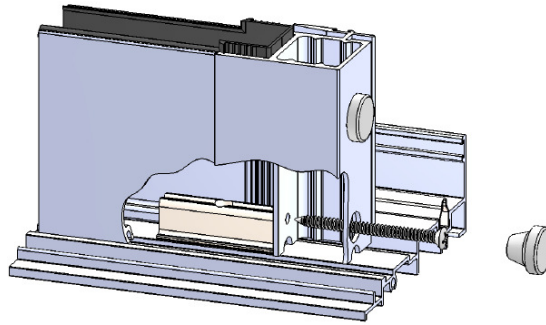

Figure 15:
7. Remove the bottom plug button. Insert one (1) #10 x2-1/2" pan head screw through the fixed interlock stile and into the sill block, as shown in Figure 15.
5. Insert one (1) #10 x2-1/2" pan head screw through the fixed interlock stile and into the sill block (Figure 15).